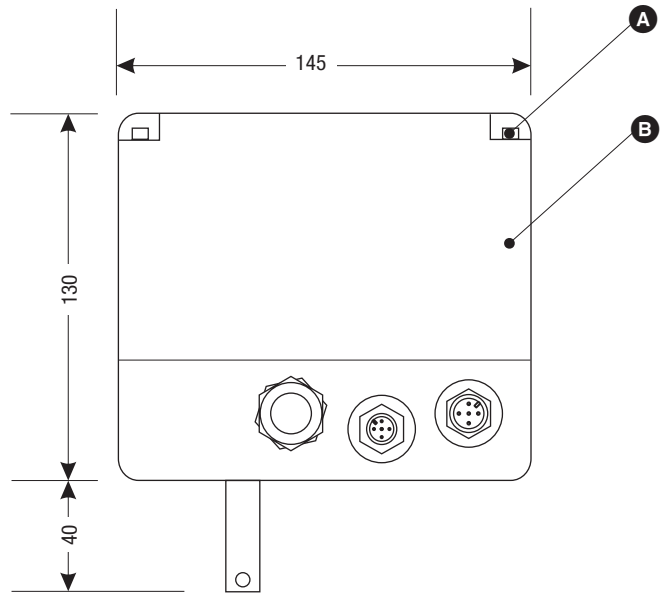

Fig. 2
- A** Cross-recess cover screws **Fig. 2**
- B** Cover **Fig. 2**